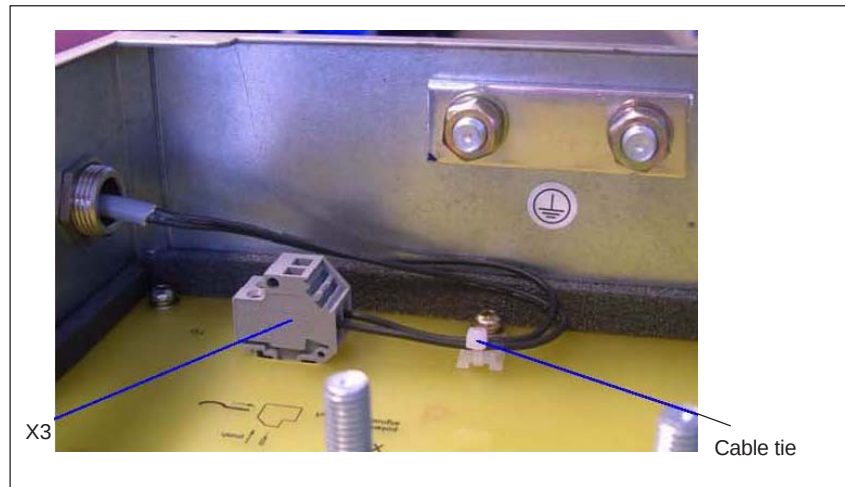

Fig. 8-46 Connecting the X3 signaling contact for VPM 200 and VPM 200 Dynamik
- Connect the cables to X3 and secure them with the cable tie (see Fig. 8-46)
- K2 green/yellow (PE) ⇒ PE1